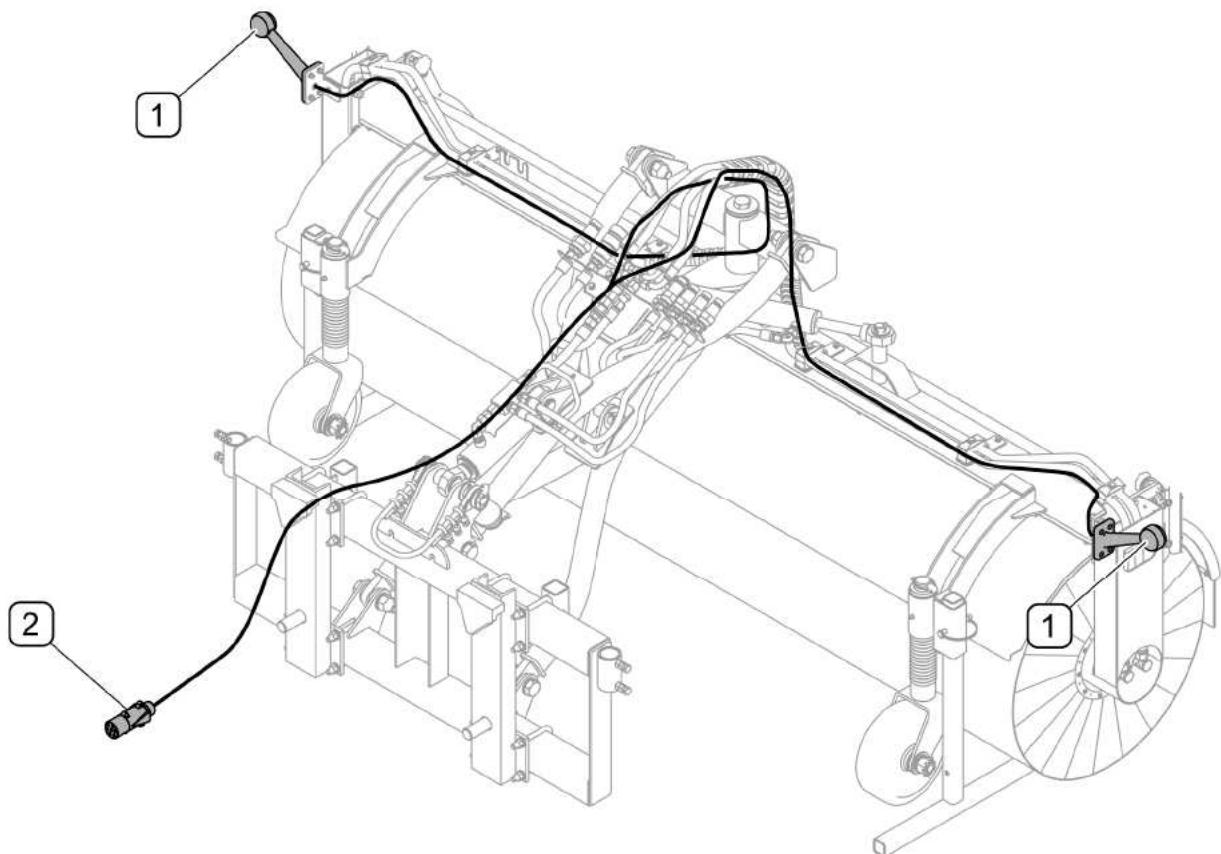

FIG. 3.8 Design of the electrical system (ZM-S25U)
(1) - clearance lights; (2) - power supply plug
Electrical system of ZM-S25U sweeper (for MB UNIMOG vehicles) is used for supplying the sweeper's clearance lights and consists of clearance lights (1). The electrical system (FIG. 3.8) is connected to the carrying vehicle by means of power supply plug (2). Depending on machine version, the sweeper can be supplied from 12V or 24V electrical system of the carrying vehicle.